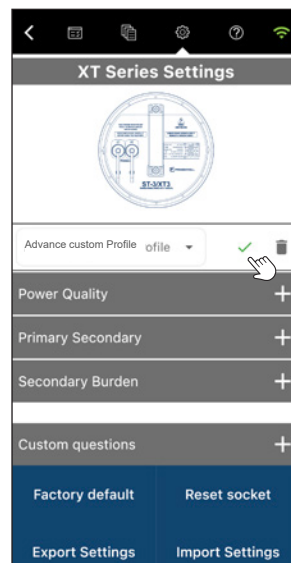

Figure 3
- Modify a profile:** To modify a profile, start by selecting the profile, make the required changes in the settings and click the green checkmark ✓ to save the changes, (Figure 3).